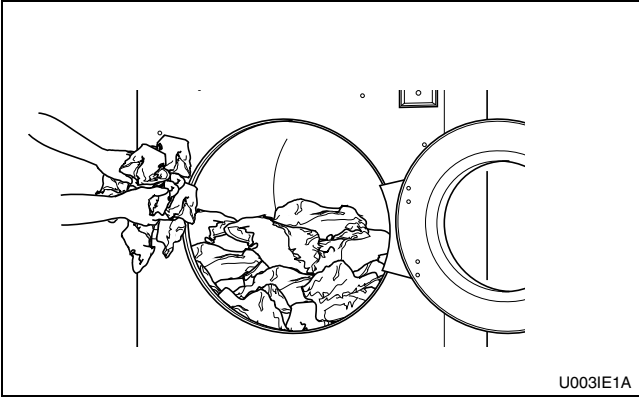

Figure 18
- 3. Load to capacity whenever possible. DO NOT OVERLOAD. Refer to *Figure 18*.